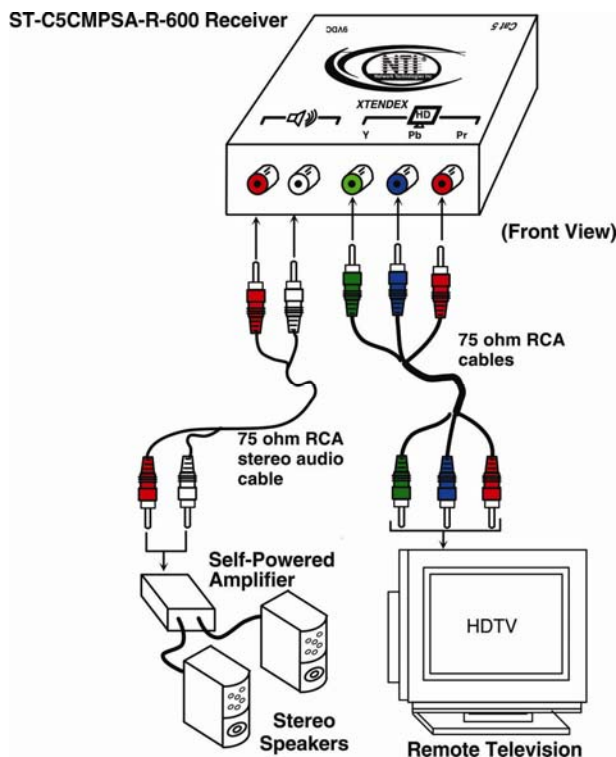

Figure 9- Connect the Extended Components to the Receiver
3. Connect the remote user's speakers to the 3.5mm female stereo connector on the Receiver (see Fig. 9).
4. Make sure the CAT5 cable has been installed in accordance with the "Preparation for Installation" instructions on page 5. Connect the CAT5 cable to the "Cat 5" port on the Receiver. (See Fig. 9) When properly inserted the CAT5 cable end should snap into place.